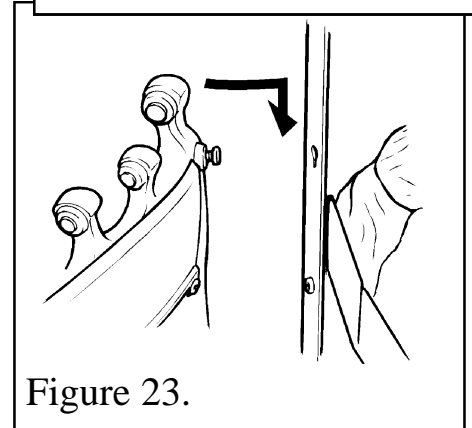

Figure 23.
- Fit the fire front casting between the fascia sides. Locate the two screw heads at the rear top corners of the casting through the keyhole slots at the inner sides of the fascia. If the screw heads do not project enough or project too far, the screws can be adjusted. Lower the casting so that it rests on the hearth (See figure 23).